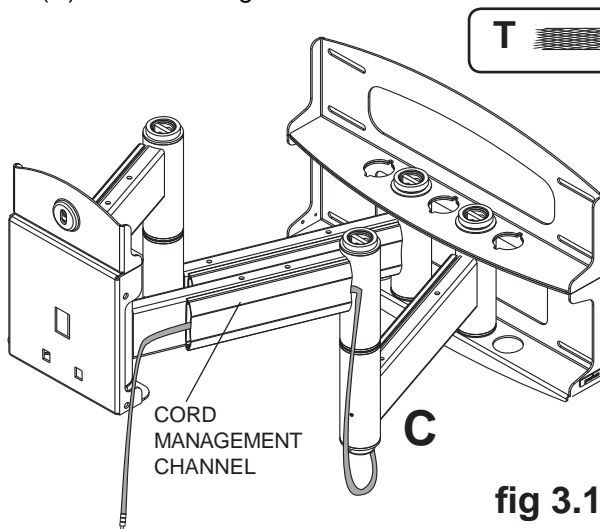

fig 3.1
**3-1** Pull cords through cord management channels, leaving enough slack to allow full range of movement for swing arm assembly (C) as shown in figure 3.1.
**3-1** Slide one mesh sleeve (T) over each cable. Use cable ties (S) to tighten mesh sleeves to cables.